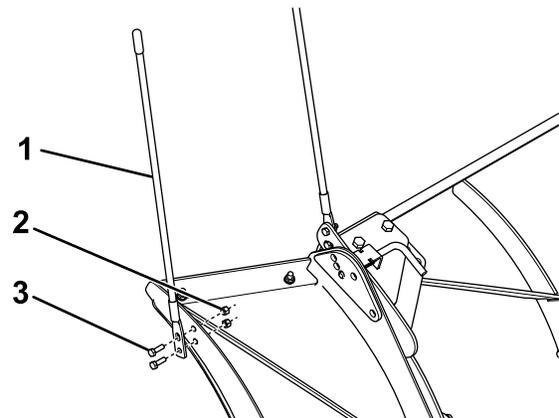

**Figure 20**
- Rotate the plow wing forward and lock it in place with the spring pin (Figure 20).